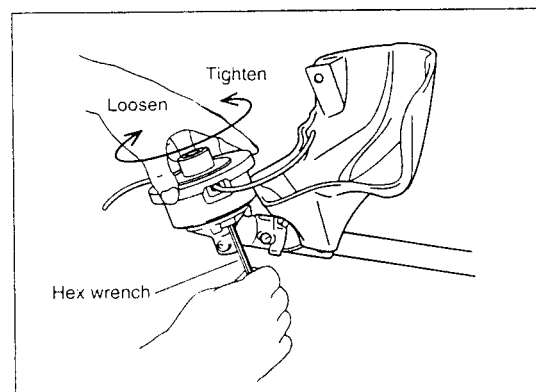

Fig. 4
2. Insert the hex wrench through the hole in the back of the gear case (Fig. 4) and turn the tightening washer until it is locked with the hex wrench (or the shaft is locked).
4. Screw the nylon cutting head onto the shaft (Fig. 4).